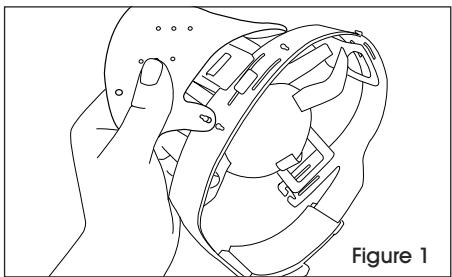

Figure 1
1. Attach flap to the upper hook on the plastic suspension so the sponge side faces toward the plastic. (See Figure 1)
(Voir Figure 1)